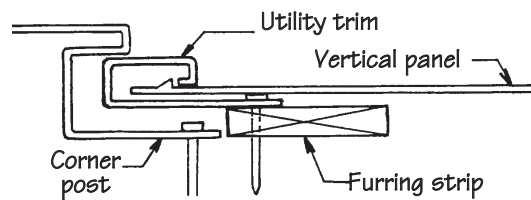

Figure 61.
- If the panel is cut on the flat surface, install utility trim, backed by furring, into the J-channel. Punch snap locks along the cut edge of the panel at 6" intervals and snap it into the utility trim (Fig. 61).